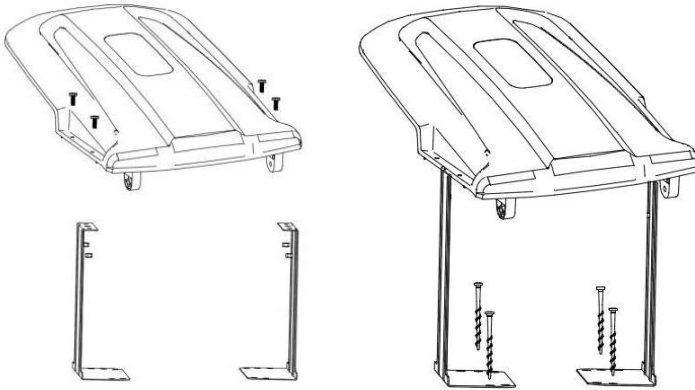

Fig.1 Fig.2
1. Connect the protective cover in the supports with four screws and nuts (Fig.1 )